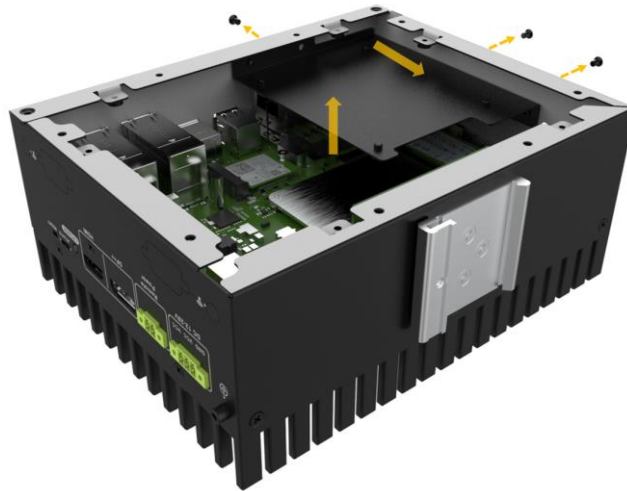

Figure 3-2: Removing the HDD Bracket
Step 2: Remove the HDD bracket as indicated by the arrows in **Figure 3-2**.